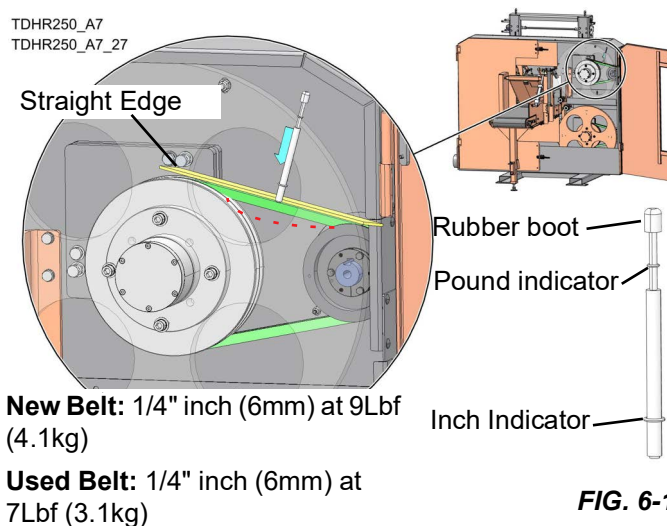

FIG. 6-1
9. Read the pounds indicated by the small O-ring. See FIG. 6-1